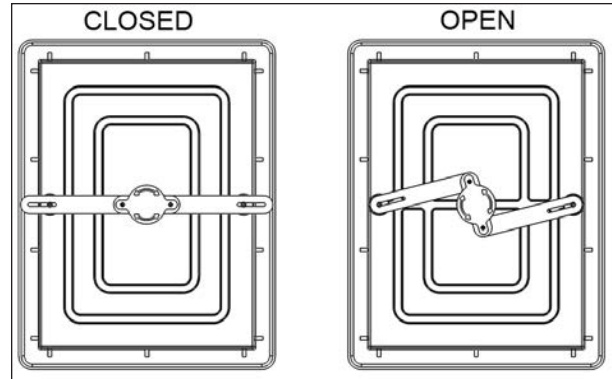

FIGURE 70: ESCAPE HATCH LOCKING MECHANISM
1. On the escape hatch, check if the release mechanism is working well. Make sure that the hatch arms are retracted when open and non-retracted when closed, see Figure 70.